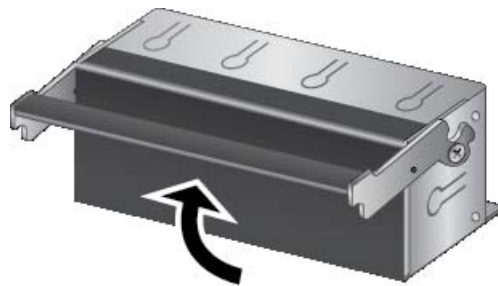

Figure 49. Lifting the Locking Handle on the Blank Power Supply Slot Cover
1. Lift the locking handle on the blank power supply slot cover. Refer to Figure 49.